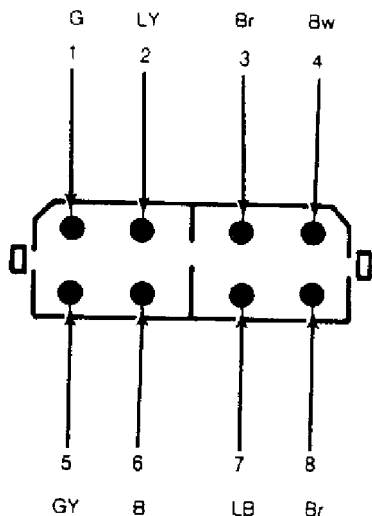

Fig. 3: Choke Switch Terminal Locations
2) Continuity should exist between terminals No. 3 and No. 7 when choke knob is pulled to about 0.4" (10 mm.). Continuity should exist between terminals No. 6 and No. 8 when choke knob is at any position. See Fig. 3 for terminal locations.